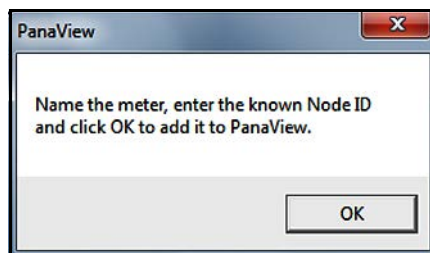

Figure 34: Confirmation Dialog Box
8. At the dialog box shown in Figure 34 below, click on the **[OK]** button to add the meter and configure it.